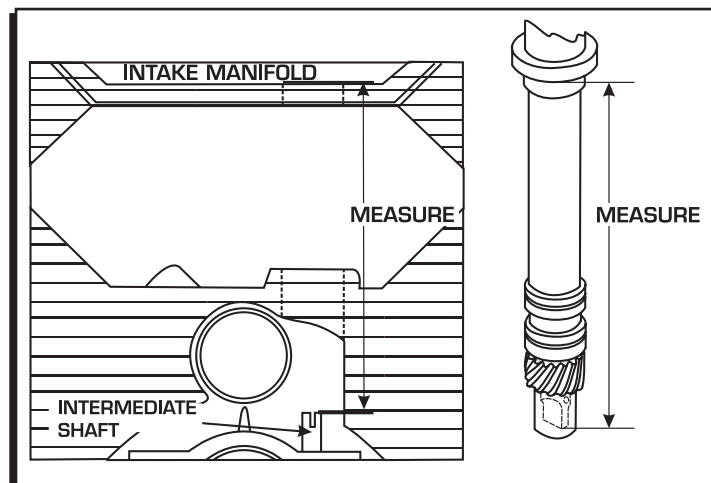

Figure 3 Checking Oil Pump Shaft to the Distributor Shaft Overlay.
1. Measure the distance between the base of the slip collar to the tip of the distributor shaft (Figure 3).
2. Using a straight edge, measure the distance from the intake manifold distributor flange to the top of the oil pump intermediate shaft (Figure 3).